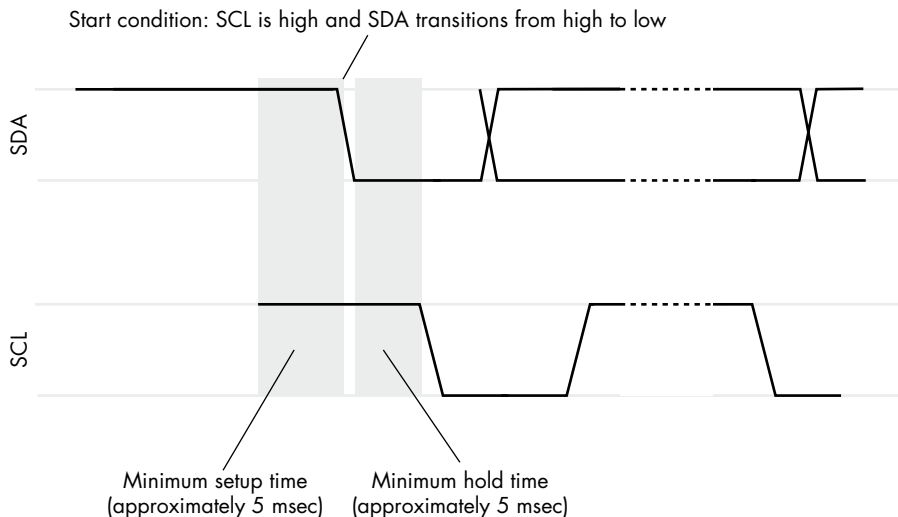

Figure 3-2: The start condition
To acquire the bus, the code places the start condition on it ❸. This start condition begins with both lines high for 5 µsec (one-half clock cycle). This is followed by a transition on the SDA line from high to low and then a half clock period with SDA low and SCL high (see Figure 3-2).